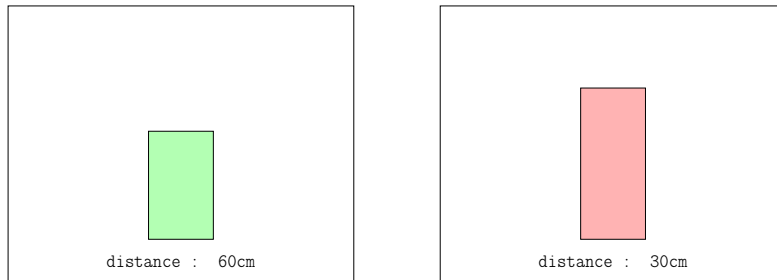

Figure 3: display example: sensor returns a long distance at left and a shorter at right
The distance to the obstacle is given by the duration of the Echo pulse. We use the **EXTI** peripheral to detect rising/falling edges, and a timer (**TIM7**) as a stopwatch to get the pulse width. The measure is stored in a global variable (figure 3).
**Question 4** *Use the text and graphic functions of the TFT display to make a user interface as shown in figure 3. The bargraphs gets higher when the distance to the obstacle gets shorter. You can use colors.*